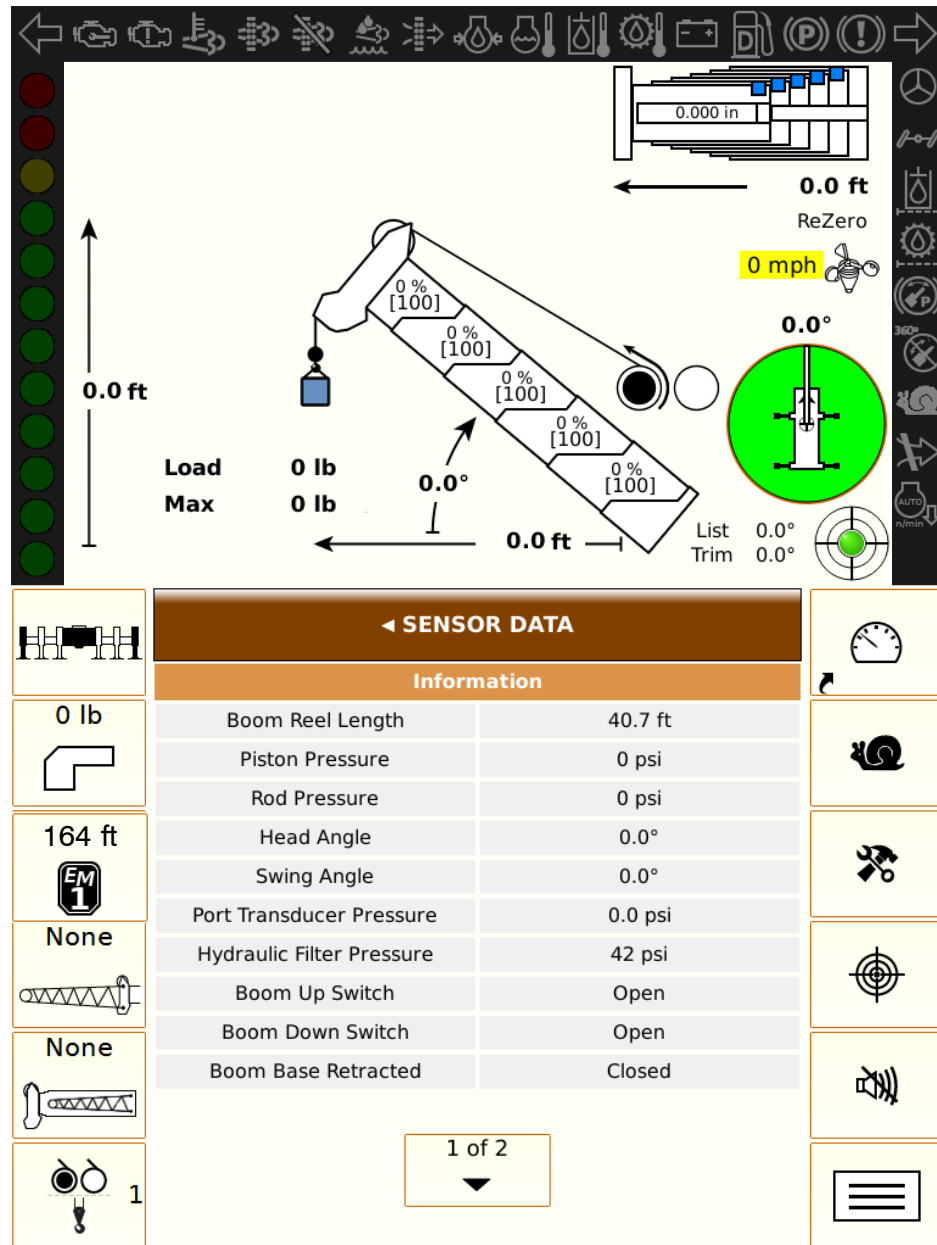

Figure 1-133
The Sensor Data Screen displays data being read by various sensors on the crane. Refer to Figure 1-133.
3. The Sensor Data Screen will appear. Refer to Figure 1-133.